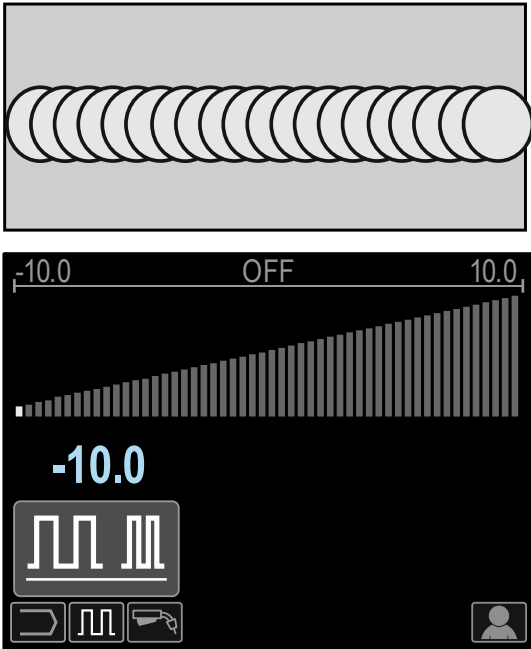

Figure 82
- Frequency less than 0,0 – Wide weld and ripple spacing, slow travel speed. Figure 82 shows the spacing weld when the frequency is "-10".